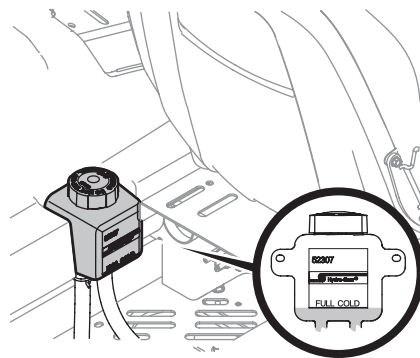

Figure 4-9
1. Pivot the operator's seat forward and clean the reservoir cap and the area around the cap to prevent debris from contaminating the transmission oil. See Figure 4-9.
2. Turn the reservoir cap counter-clockwise to remove, then check the oil level in the reservoir. Oil should be visible at the bottom of the cup, but the oil level must NOT be above the "FULL COLD" line. See Figure 4-9. DO NOT FILL THE RESERVOIR.